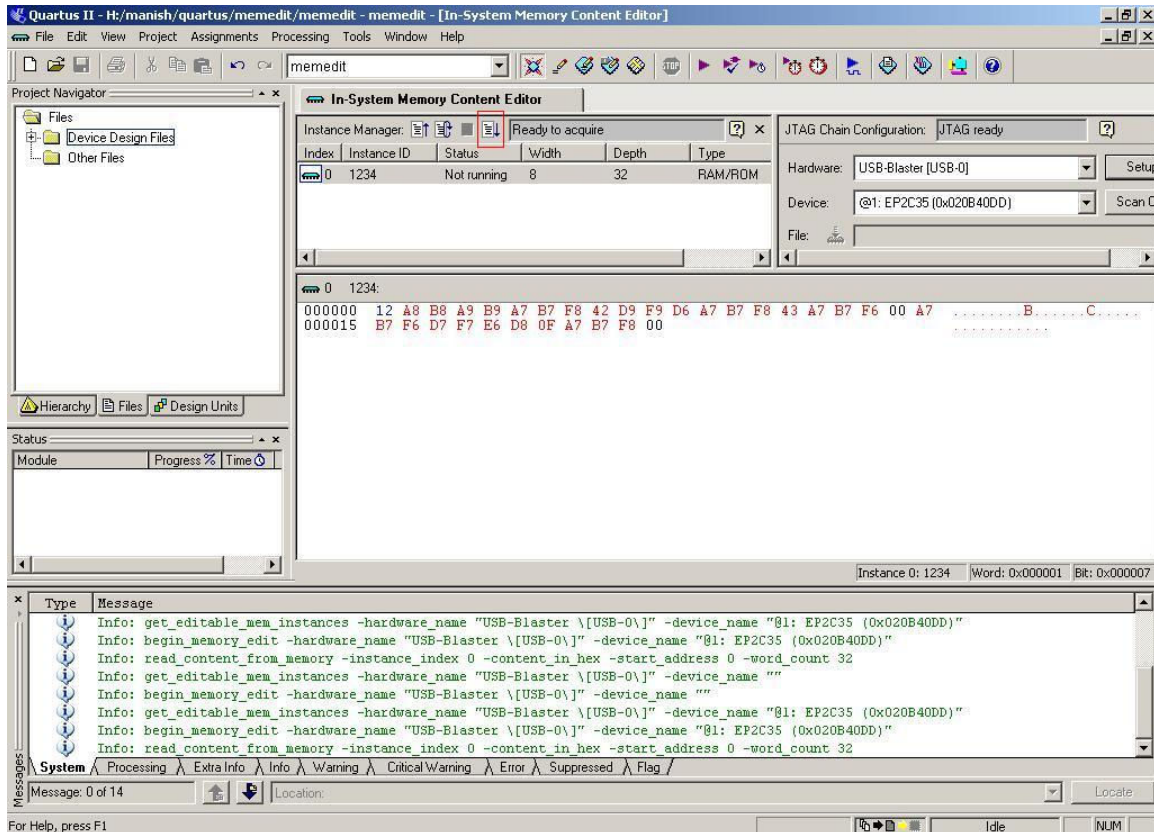

Fig. 11
11. The contents can be modified by directly overwriting them as shown in Fig. 11 at location 000000 we have changed the contents from 00 to 12. This is just a change made in the editor. To actually write the new value in the memory you can click the 'Write' button as highlighted in Fig. 11 with a red box.